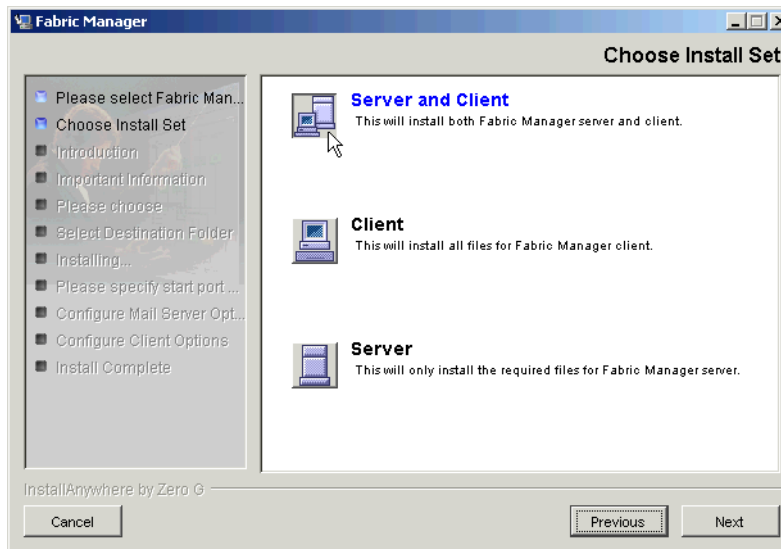

Figure 1-168 Choose Install Set
4. We are then asked to choose if we want to install the Client, or Server, or both Client and Server. We select Server and Client as shown in Figure 1-168, and then click **Next**.